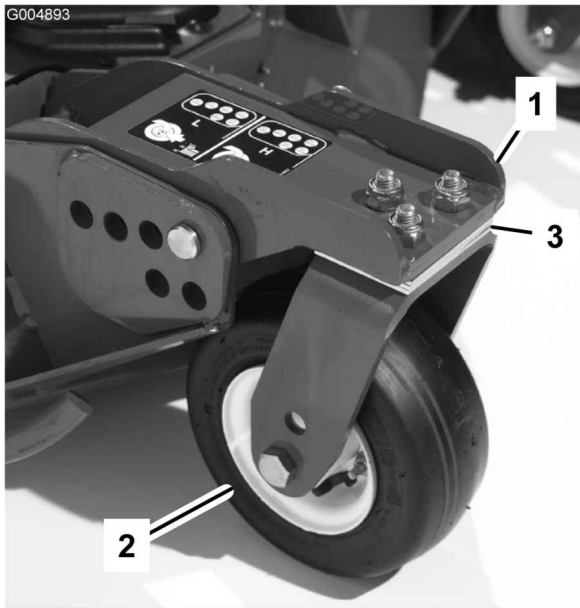

Figure 83
1. Remove the cap screws and nuts securing the castor arm to the castor fork (Figure 83).